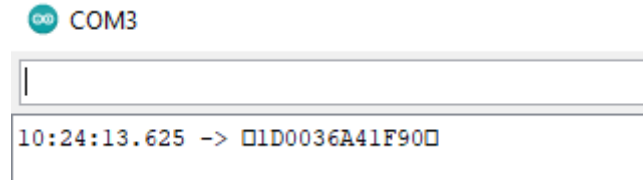

Figure 11.3: Reading an RFID Tag
- The unique tag ID should print out in the Arduino Serial Monitor (see Figure 11.3).